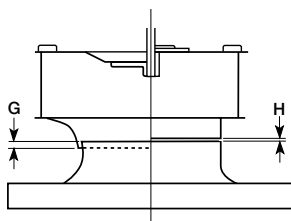

Figure 12
1. Check all fasteners and setscrews for tightness. The wheel should rotate freely and be aligned as shown in Figure 12.